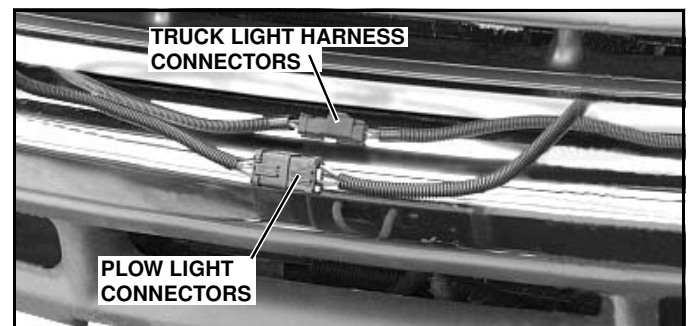

Figure 1-46
1. Unplug EIS® light harness connectors on truck, and disconnect plow light connectors, which had been plugged together for corrosion protection during storage. (See Figure 1-46).